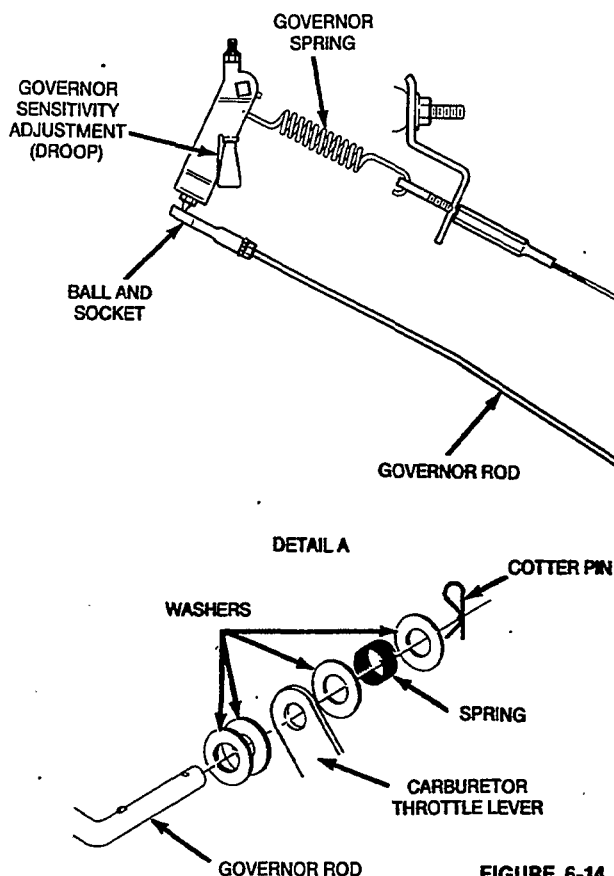

FIGURE 6-14. GOVERNOR ADJUSTMENT
**Preliminary adjustment:** Before adjusting the governor system, make certain that the length of the governor rod is correct. Make this static adjustment with the generator set completely cold. Refer to Figure 6-14 or 6-15 for the arrangement of these components.